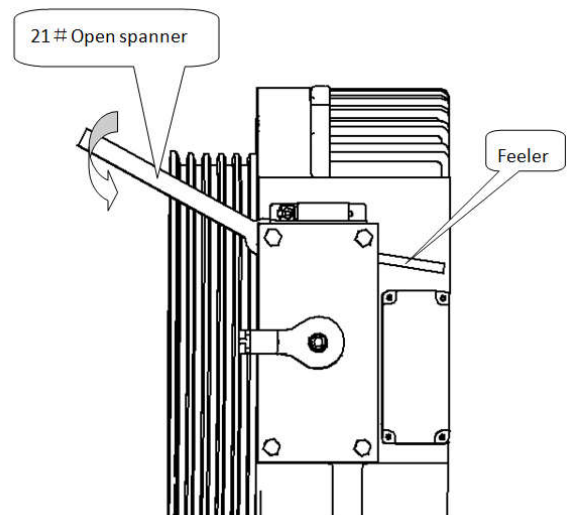

Fig. 1.4
- b) Rotate 4 guide screws counterclockwise with the 21 # open spanner and test the air gap of brake while adjusting until the air gap of brake is between 0.3~0.55mm. Refer to fig.1.4.